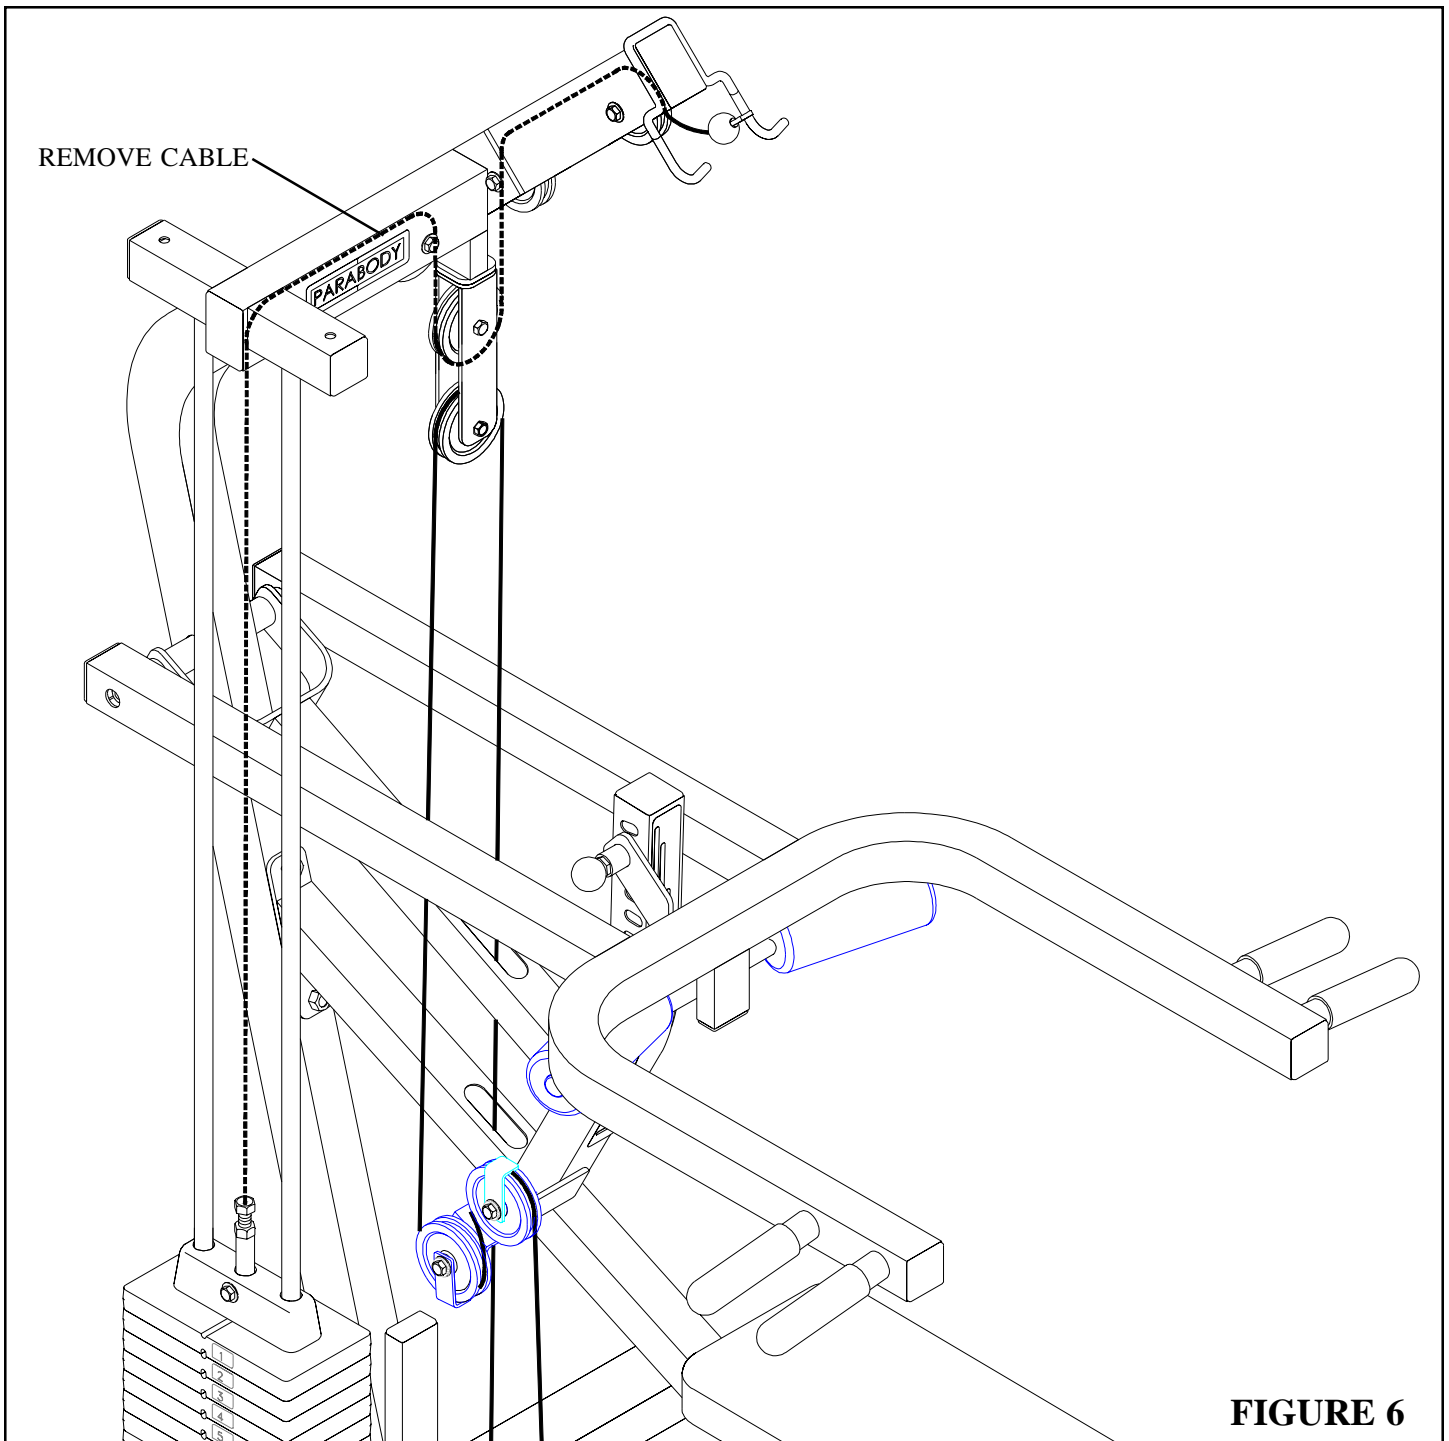

**FIGURE 5**
- Securely fasten the FRONT LEG (1) and the BASE CONNECTION (3) to the BASE and STACK GUARD using two 1/2 X 4-1/2" BOLTS (12) and two previously removed 1/2" LOCKNUTS. See FIGURE 5.